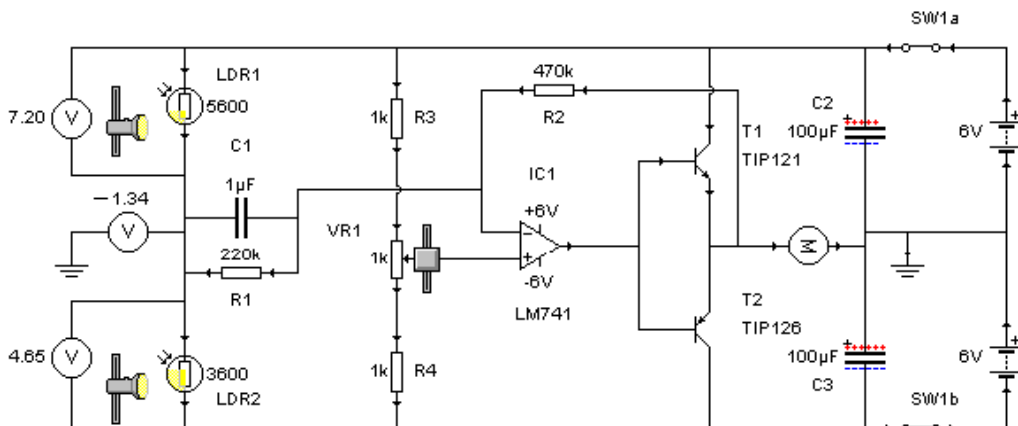

FIGURE 4: MORE LIGHT TO LDR2
8.2.3 MORE LIGHT TO LDR2 - Figure 4